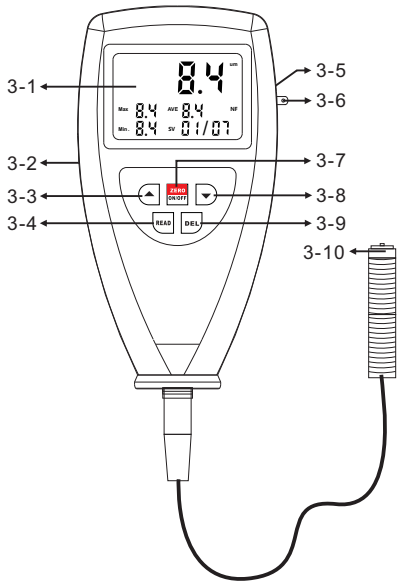

Fig. 1
10.2 Slide the Battery Cover (Fig.1.) away from the instrument and remove the batteries.